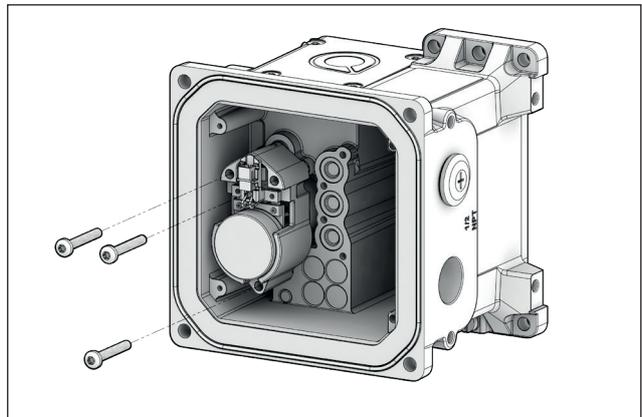

Fig. 91. NDX_511_ and NDX_512_ prestage location.
- under main cover and LUI module (Fig. 91)